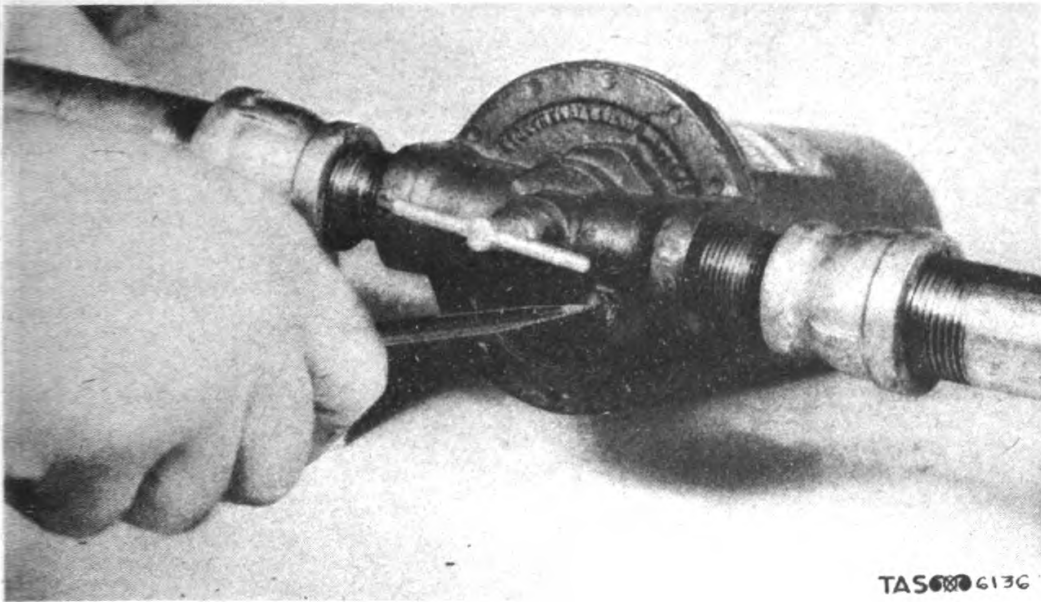

Fig. 136. Loosening Bleeder Plug to Release Air from **Self-cleaning Strainer**.
w. Strainers. (1) Self-cleaning strainers can be cleaned with the generator in operation. Simply turn the handle, and at intervals remove the drain plug at the bottom to allow dirt to escape. From time to time the strainer should be disassembled and all parts washed with a solvent.
(2) Screen-type strainers are cleaned by removing the cap and screen and washing the screen and the body at frequent intervals. When these strainers are disassembled air sometimes collects inside. To remove air from the self-cleaning strainer, loosen the bleeder plug with a screwdriver. (See fig. 136.)
(3) The filter element of the water filter and the tube and core of the fuel oil filter should be renewed when either becomes darkened, stained, or clogged.